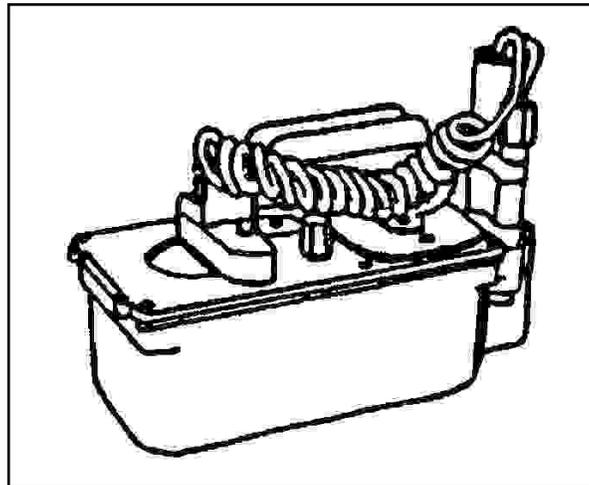

Figure 3-37. Radiac Meter
- a. Use a radiac meter AN/PDR-27 to detect nuclear contamination (see Figure 3-37).